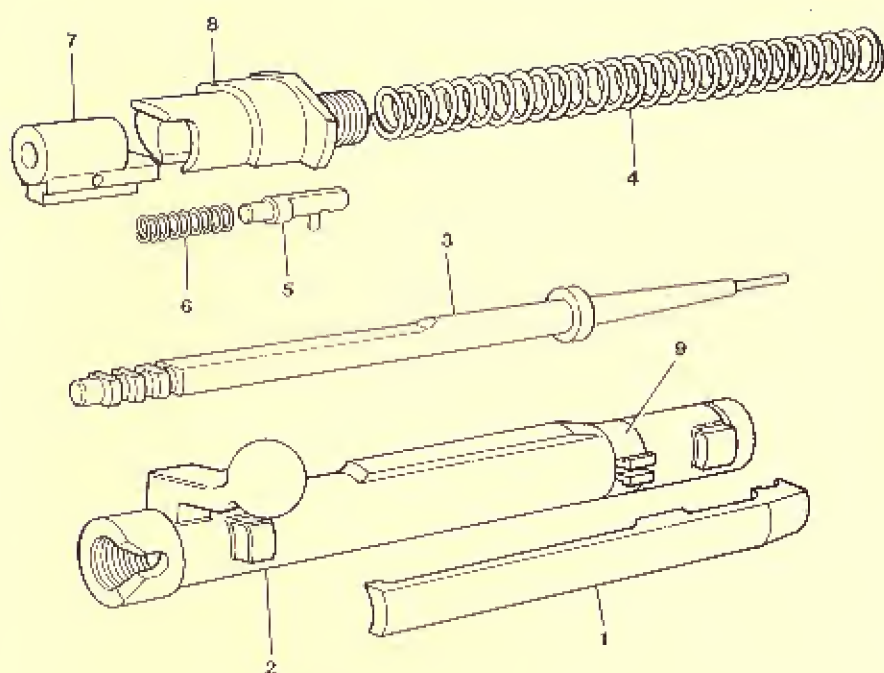

FIG 1 BOLT ASSEMBLY – STRIPPED
3. STRIPPING THE BOLT ASSEMBLY (Fig 1)